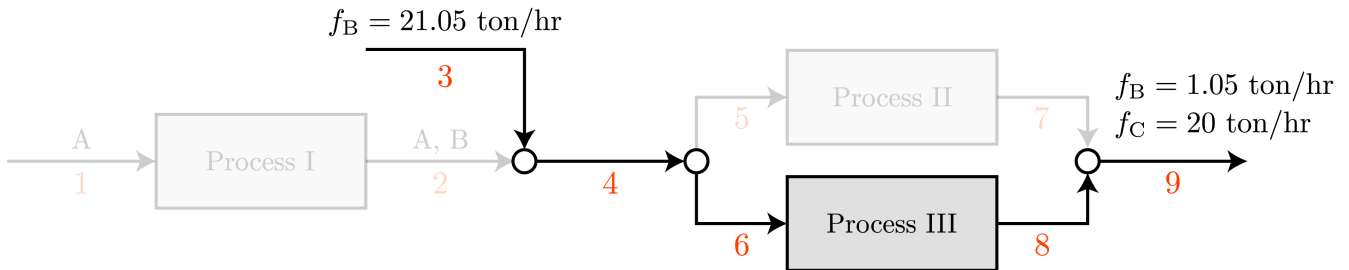

Figure 3: Optimal flowsheet for Problem 2
- (c) The optimal flowsheet is shown in Figure 3.